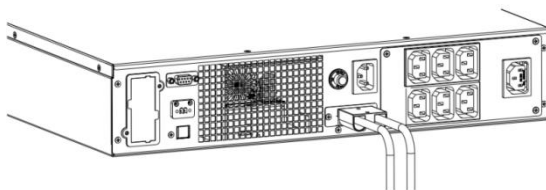

Fig.5-6 Battery terminal connection
3. Plug the Anderson terminal to UPS as Fig. 5-6